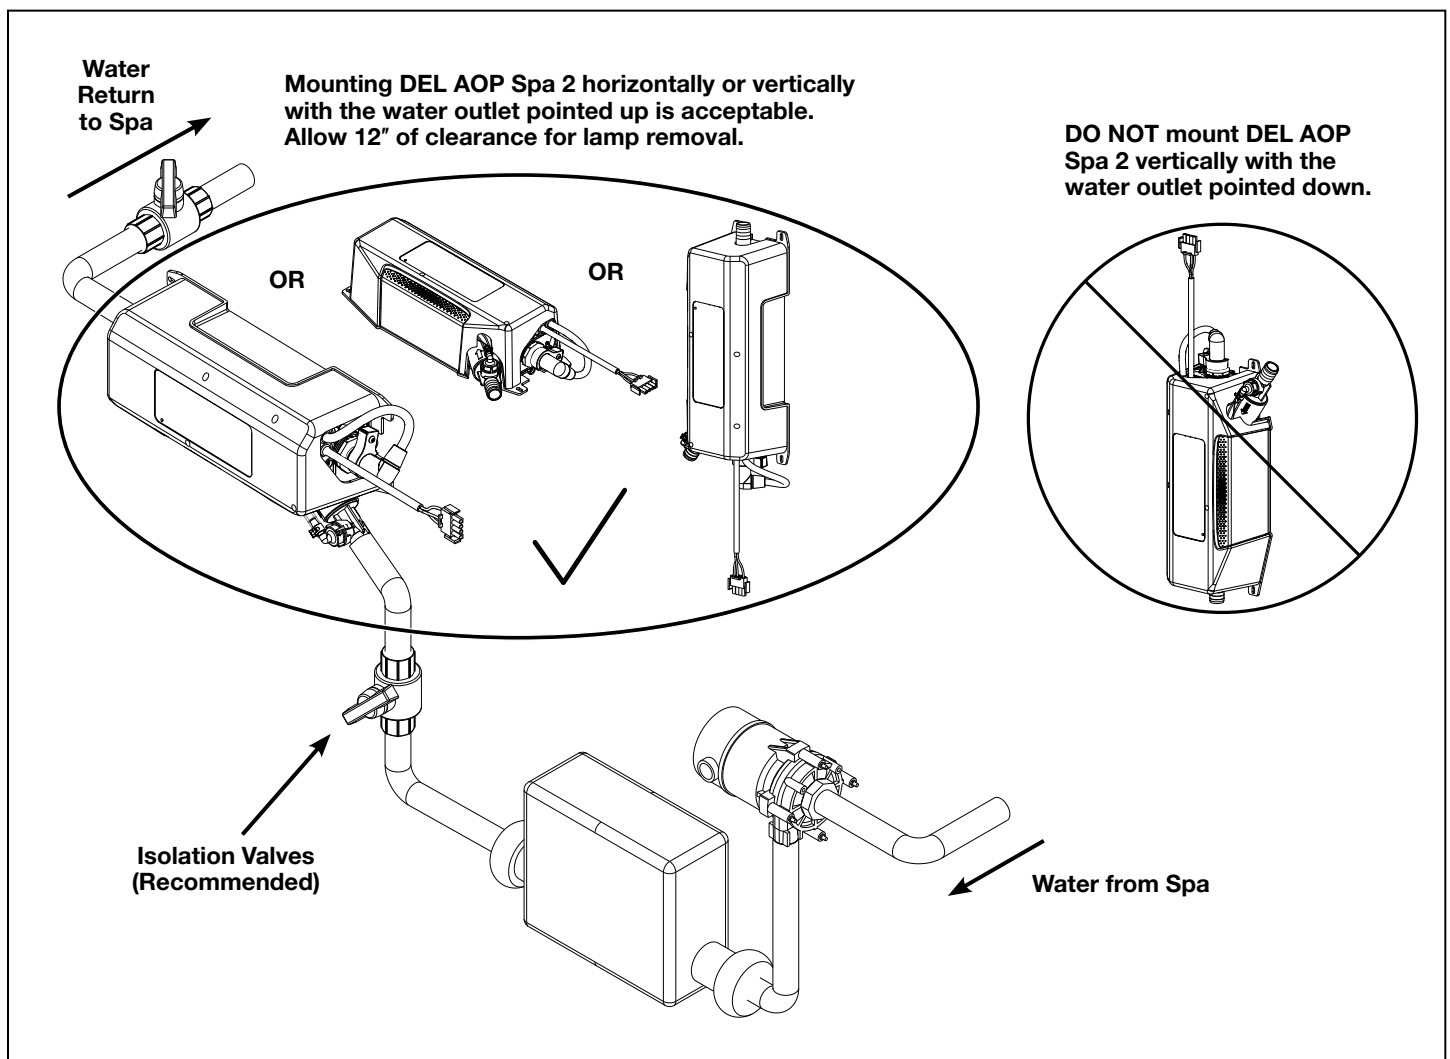

Figure 2. DEL AOP Spa 2 Plumbing Diagram
- Any orthogonal mounting orientation—other than vertically with the water outlet pointed down—is allowed. The most common mounting orientation is horizontal, as shown in Figure 2.